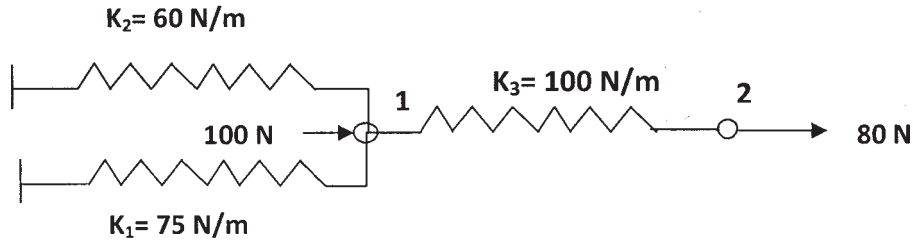

Fig.1.
- Q2)** a) Determine the displacements of nodes 1 and 2 in the spring system shown in fig. 1. Use minimum of potential energy principle. **[8]**